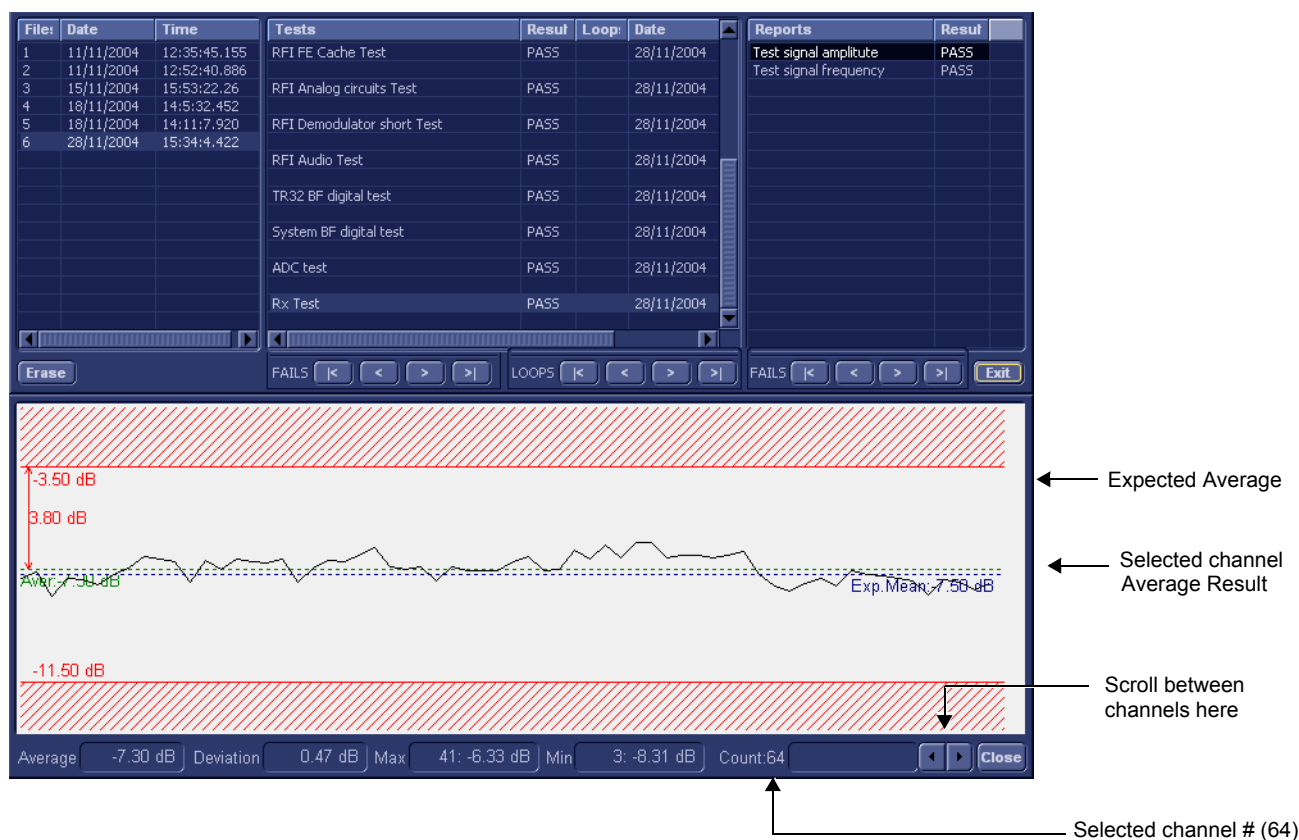

Figure 7-33 View Test Log - Rx Test Signal Amplitude
- the View Test Log window opens automatically, listing all tests performed and showing details of which tests passed or failed, as shown in the example in Figure 7-33.
Note: The Rx test has two test reports (*Test Signal Amplitude* and *Frequency*) which are listed in the *Reports* window on the right. By default, the *Test Signal Amplitude* report is displayed in the *Reports* window below (Figure 7-33).
The signal should be within the limits marked in the white area (the dotted line represents the Average), as shown in Figure 7-33.